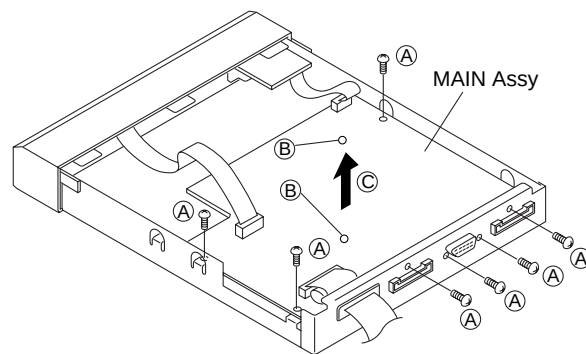

Fig. 1
■ REMIX EFFECTOR [EF-R9 (S)]
1. MAIN ASSY (Fig.1)
- (1) Remove the Bonnet (three screws of the rear part).
- (2) Remove the seven screws (A) that MAIN ASSY is fixed, and unhook two Hooks (B). (Fig.1).
- (3) Remove the MAIN ASSY (C).